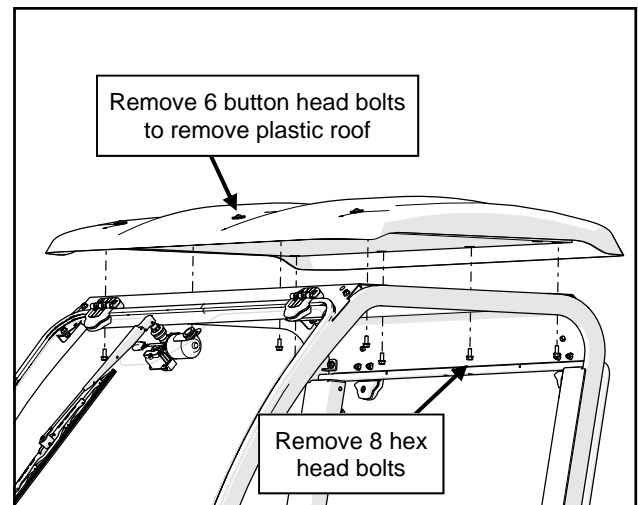

Fig. 1.7 (Remove Standard Cab Roof)
- 1.7** Remove the standard cab roof assembly via four bolts each (8 total) under the windshield support and upper rear panel. Figure 1.7.